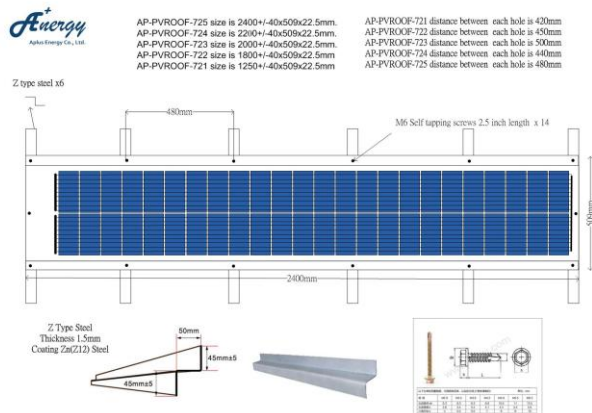

Figure 2. Schematic illustration of general module mounting at a tilt angle.
• **Mechanical Loading.** Modules should be mounted at four symmetrical quarter points within the shaded areas as shown in Figure 2. This method offers a maximum loading of 3600Pa (Test load= Design load x Safety factor γm, Design load=2400Pa, Safety factor=1.5), the positive design load is 2400Pa and the negative design load is 1600Pa in a static state on the module surface.
The edge of each module has 16 mm width. These are used to secure the modules to the supporting structure. The Z rack(Thickness at least 1.5mm) method is recommended in case the modules will be mounted on the roof of a building. The rack distance is 50cm. Use M5 self-screw and Length is 2.5inch. The applied torque should be 7 N-m to fix module to rack. The example of a roof mounted structure is shown in Fig. 2.
- All modules connected in series should be of the same model number and/or type, as shown on Figure 2.
- Use preassembled cables with connectors on Aplus Energy module for proper connections. Use cable size of AWG-12 of stranded wires rated with a temperature range of -40°C to +85°C. The cables are sunlight (UV) resistant and are insulated to withstand the maximum possible system open circuit voltage.